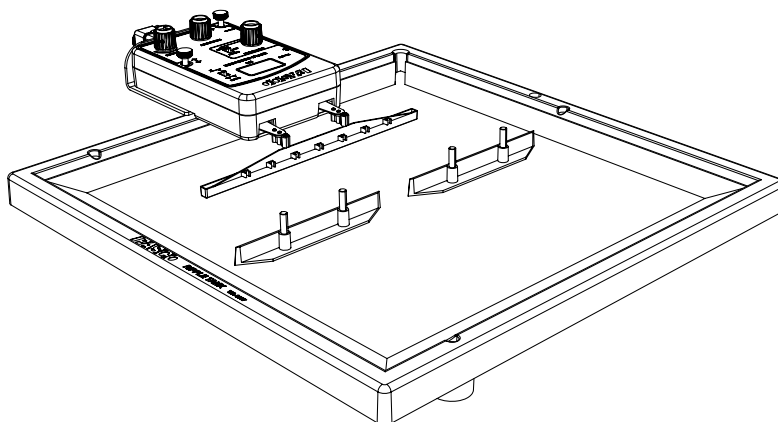

Figure 3.2: Position of Long Barriers
1. Arrange the two long barriers in the water so that they are about 3 cm apart and parallel to the plane wave dipper as shown in Figure 3.2. Set them so that they are about 5 cm from the plane wave dipper.